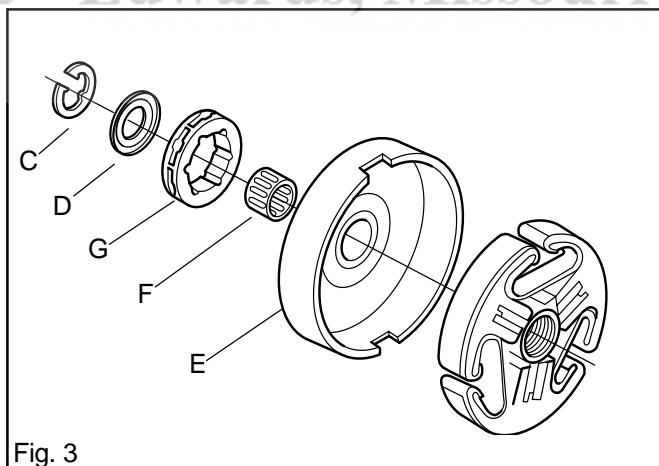

Fig. 3
5. Remove the locking ring (C) with washer (D) and lift up the clutch drum (E) with needle bearing (F) and chain drive sprocket (G). See fig. 3.
12. Grease in the needle bearing before fitting. Fit the clutch drum (E) with needle bearing (F) and chain drive sprocket (G). See fig. 3.
13. Fit the washer (D) and locking ring (C). See fig. 3.